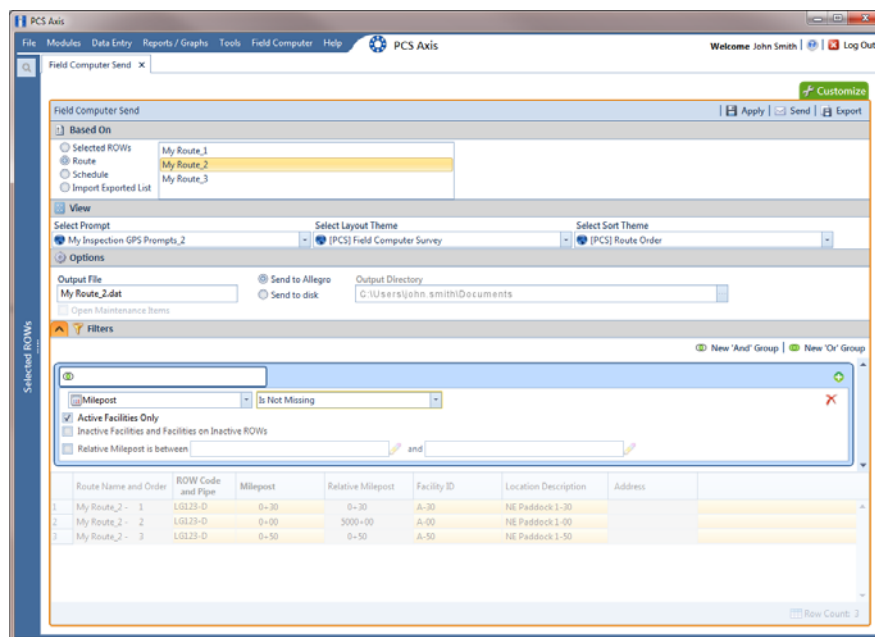

Figure 13-6. Filters
- b Select one or more options in *Filters* and then click  **Apply**. For example, click **Active Facilities Only** to only include active facilities in the grid and in the route sent to the Allegro (Figure 13-6).